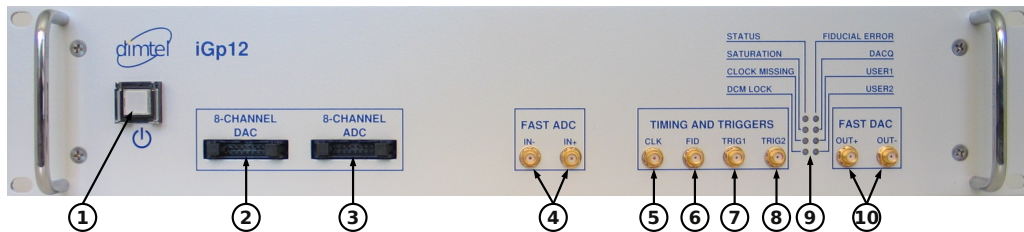

Figure 2: Front panel features
2. Connect **RF** clock at -3 dBm nominal level (Fig. 2, item 5);
3. Connect single-ended high-speed **ADC** input signal to **Ain+** (Fig. 2, item 4). The **FS** swing of this signal should be 780 mV peak-to-peak;
4. Connect a $50\ \Omega$ terminator to **Ain-** (Fig. 2, item 4);
5. Connect high-speed **DAC** output(s) (Fig. 2, item 10) to the appropriate back-end unit;
9. Push the power button (Fig 2, item 1) to turn on the system;
11. Push the power button (Fig 2, item 1) to turn the system off;